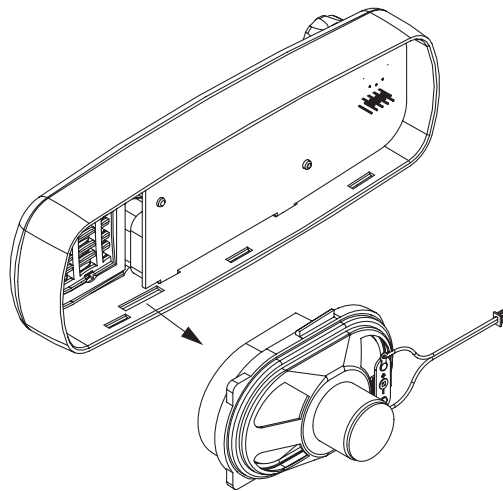

Figure 2-9: Speaker and Speaker Tube Removal
2. Disconnect the speaker socket and remove the speaker (Figure 2-9) with tube by stretching the control head housing and pulling out the tube.